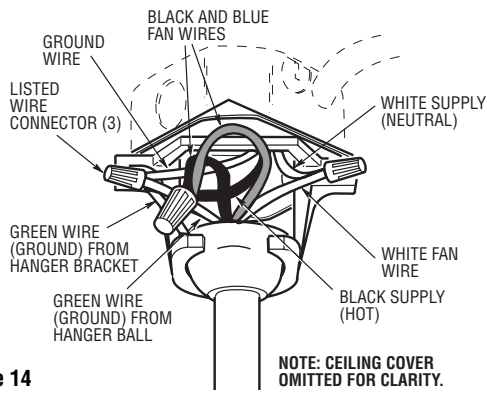

Figure 14
- 2. Securely connect the fan motor white wire to the supply white (neutral) wire using wire connector supplied (Figure 14). Securely connect the fan motor black wire and blue wire to the supply black (hot) wire using wire connector supplied (Figure 14). After connections have been made, turn leads upward and carefully push leads into the outlet box, with the green equipment-grounding conductor and white grounded neutral conductor on one side of the outlet box and the black and blue ungrounded conductors on the other side of the outlet box.